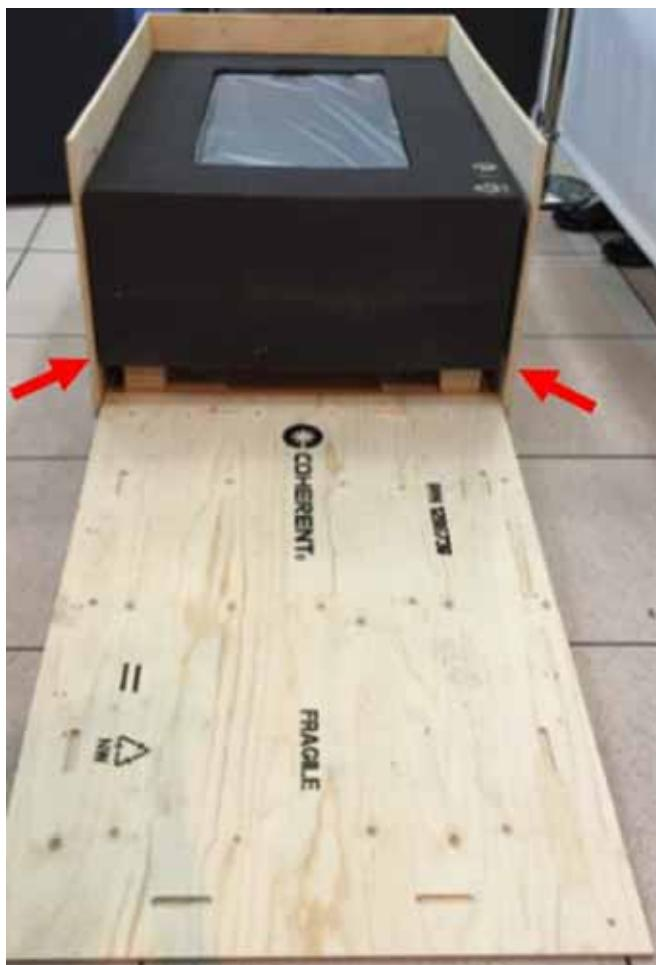

Figure 1.2-4. Crate Ramp
4. Turn the top cover over and fit into the crate form a ramp as shown in Figure 1.2-4. The two clips (shown with arrows in Figure 1.2-4) on the side panels must be removed for the ramp to fit.